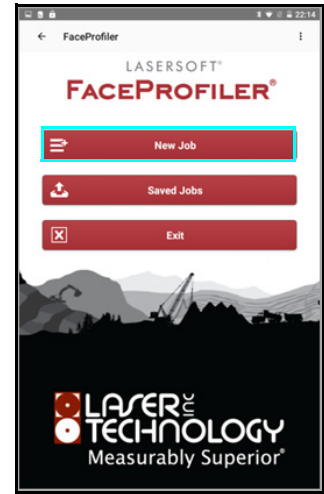

Figure 10
1. Tap the [New Job] button (Figure 10).